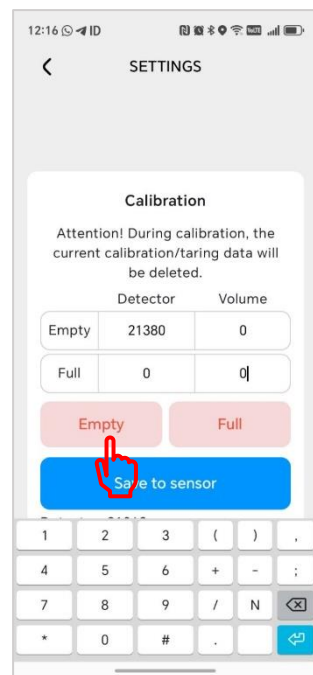

Fig. 5.18
3. Wait for the detector to reach a stable value and then click the "Empty" button. The detector value will be entered into the line. The fuel volume should be zero (Fig. 5.18).